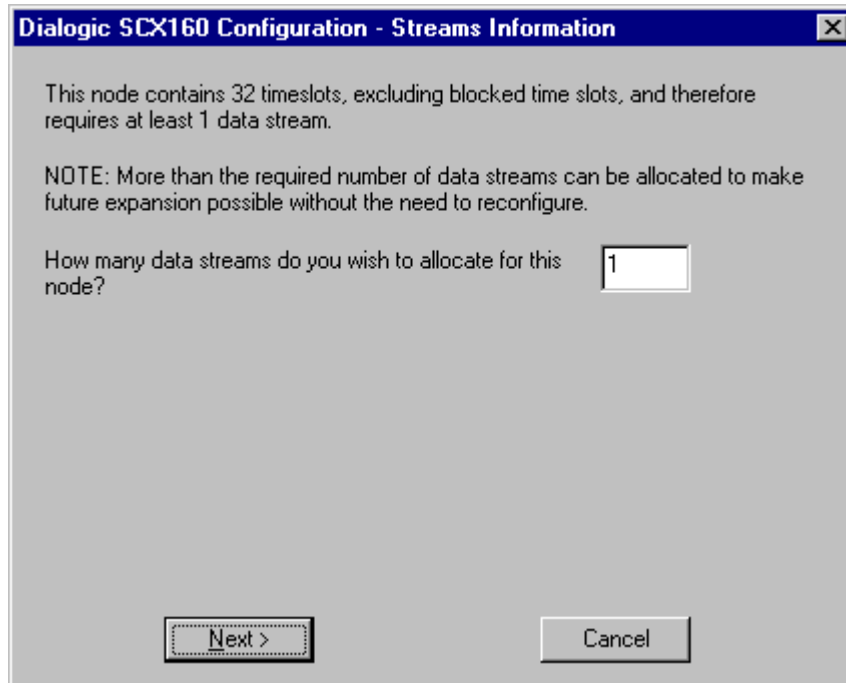

Figure 36. Streams Information Window (Blocked Configuration)
21. Click the **Next>** button to continue. This opens *Figure 36. Streams Information Window (Blocked Configuration)*.
22. In *Figure 36*, the number of data streams required to support the time slots used by the non-blocked resources installed is automatically calculated. More data streams than are required for the currently installed resources can be entered to reserve data streams for future expansion (the addition of new resources). Reserving additional data streams will enable future expansion without reconfiguring the system.